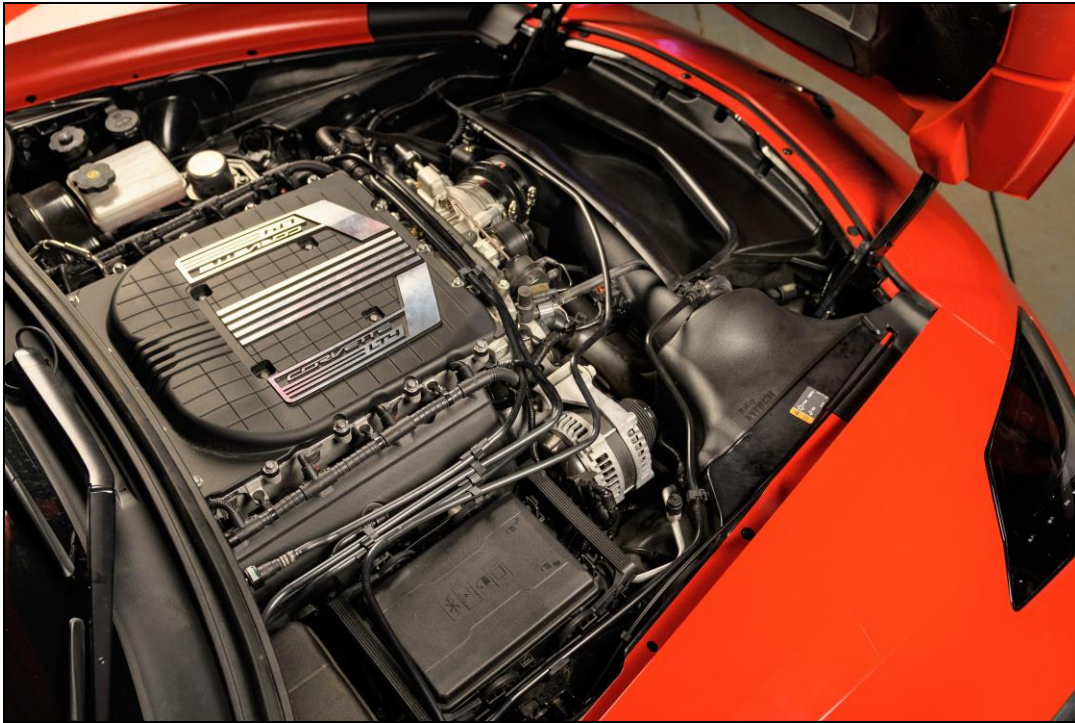

Figure 10
19. Reinstall the factory radiator duct with the previously removed factory screws (**Figure 10**).